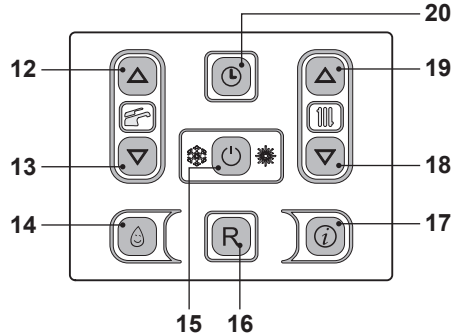
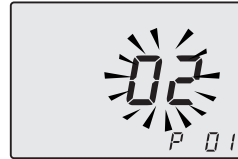

Fig. 8.7
Fig. 8.8
- Enter in "programming mode" by sequentially pressing and holding keys 15 - 18 - 19 (Fig. 8.7) for 10 seconds at the same time until the letters **P01** are displayed on the LCD display, indicating that "parameter 01, has been activated (Fig. 8.8).
- By pressing key 15 (Fig. 8.7) confirmation of the inserted value is obtained.
- Press keys 18 or 19 (Fig. 8.7) to exit without changing the value Fig. 8.9)
However, if the ambient temperature is not comfortable, the flow temperature of the heating plant can be increased or reduced by  $\pm 15^\circ\text{C}$  by acting on keys 18 (reduce) and 19 (increase) (Fig. 8.7).